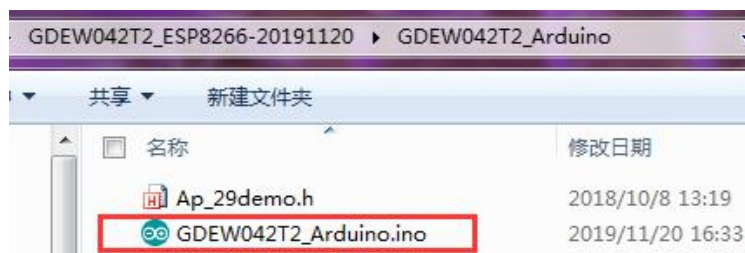

Figure 8 : Open Arduino.ino
- 3) Open the Arduino.ino file in the folder shown in Figure 8 with Arduino 1.8.6.